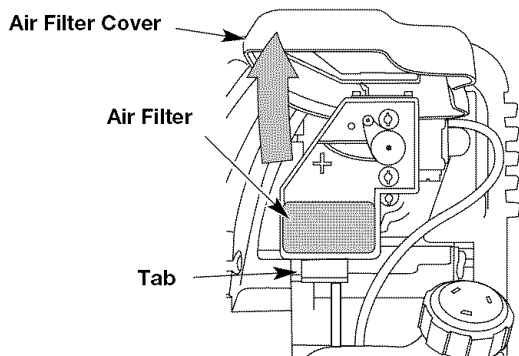

Fig. 27
1. Open the air filter cover. Push the tab on the under side of the cover inward. Then pull the air filter cover out and up from the bottom of the cover (Fig. 27).
2. Remove the air filter (Fig. 27).